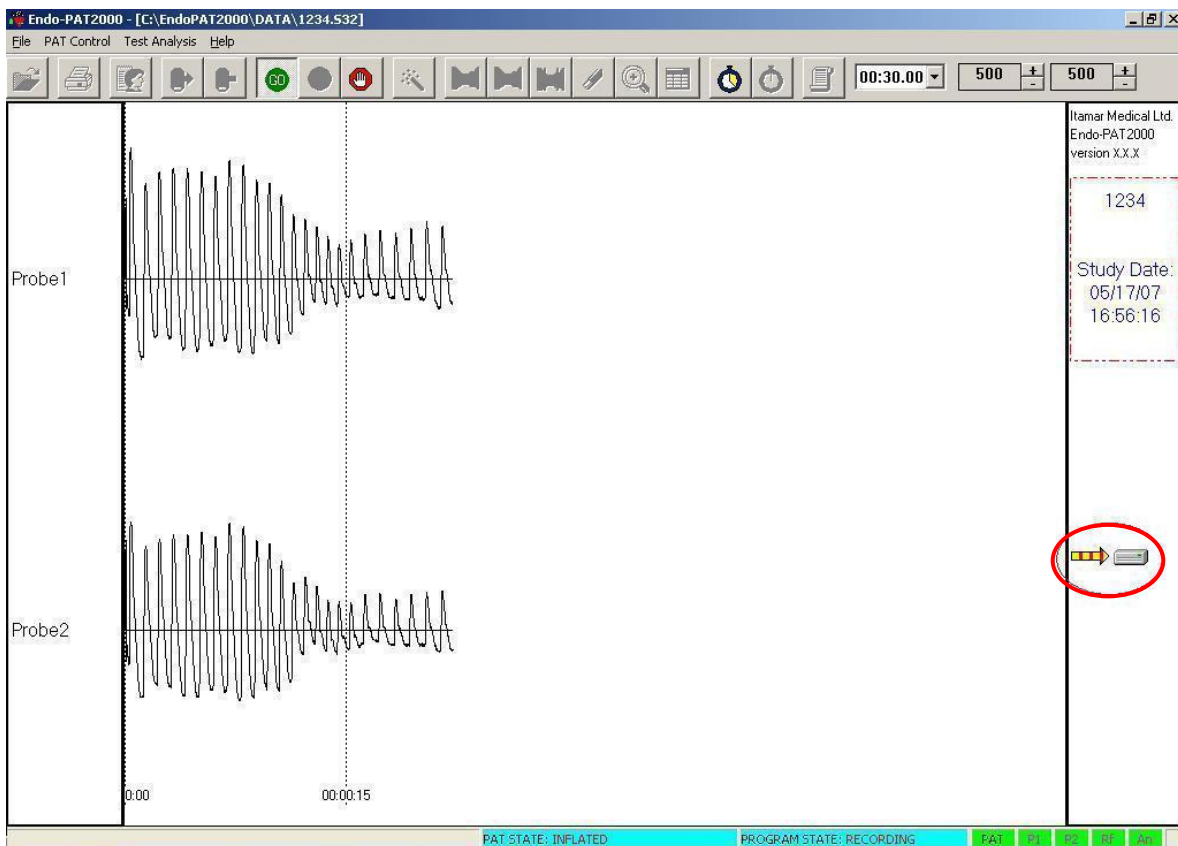

Figure 37 - Recording
2. Click the  icon to begin study recording. Verify that the “recording” icon appears on the right hand side of the display (see the circled icon in Figure 37).